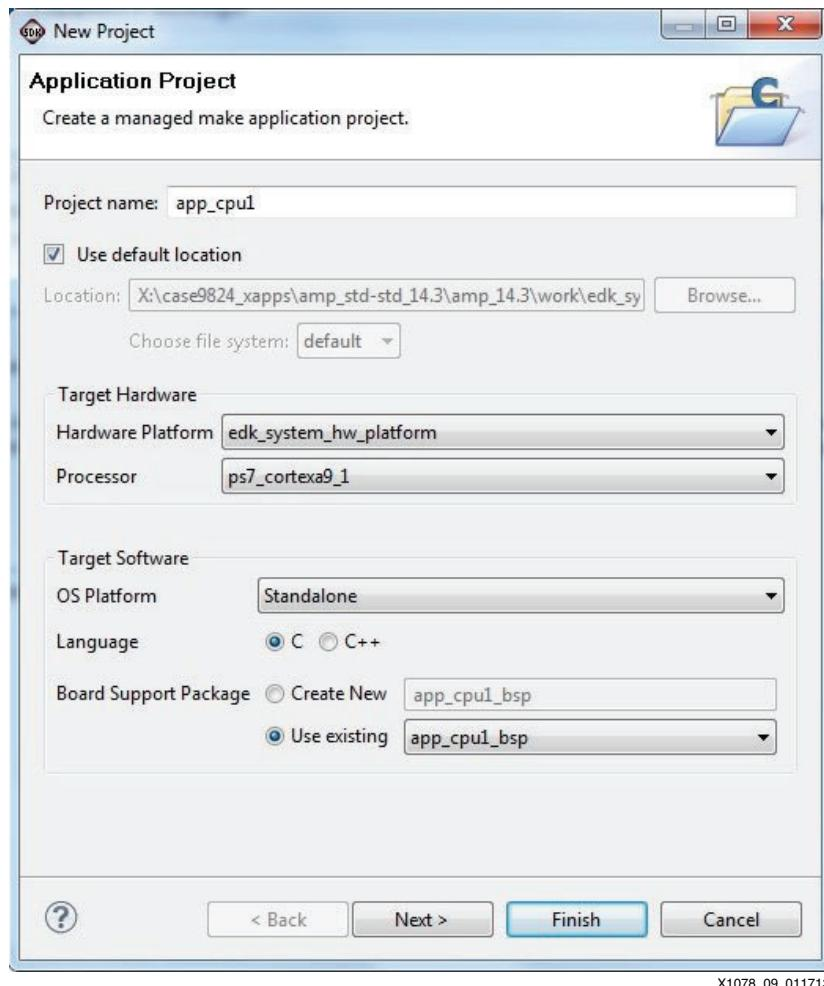

Figure 9: CPU1 Create Application
2. Create the bare-metal application that will be running on CPU1 and import the included software (Figure 9):